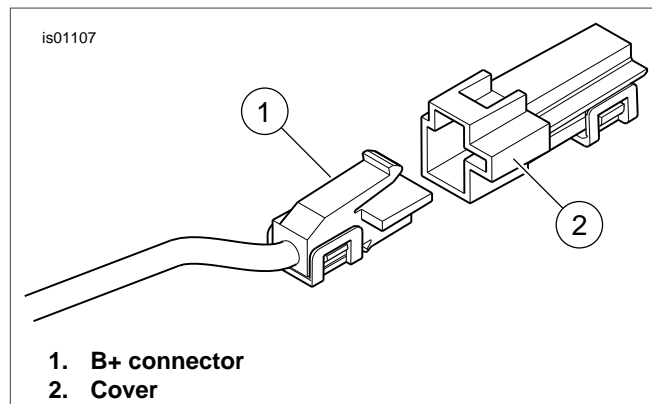

Figure 5. B+ Connector
3. See Figure 5. Locate the B+ (battery positive) connector (1) on the main electrical harness under the seat (a red wire with an unused gray connector). Remove the cover (2) from the connector.